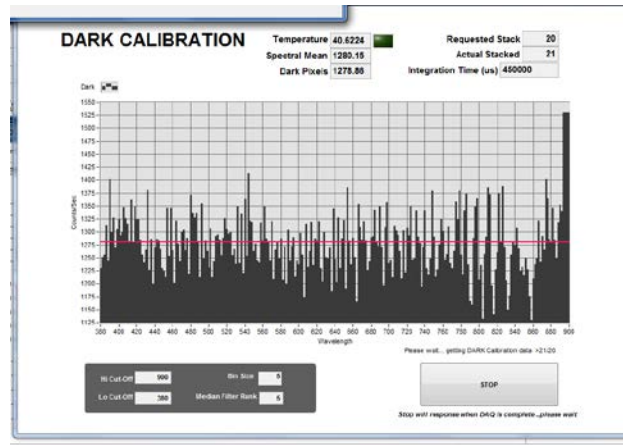

Figure 11. Dark Calibration Spectrum.
4. After the white measurements are completed, the logger will raise the integrating sphere, position it over the dark standard, and lower it on the dark standard. The shutters on the light sources will close and the dark measurement will acquire 20 measurements, as above (Fig. 11).